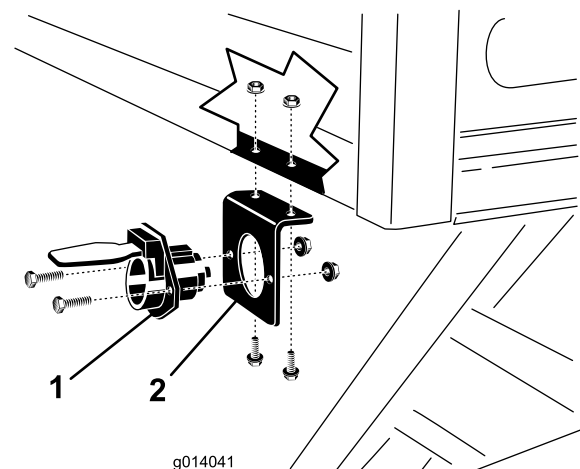

Figure 8
14. Mount the socket bracket to the bottom left edge of the front panel with two 1/4 x 3/4 inch screws and nuts (Figure 8).
16. Bolt the socket to the front of the socket bracket with two 5/16 x 1 inch screws and nuts (Figure 8).